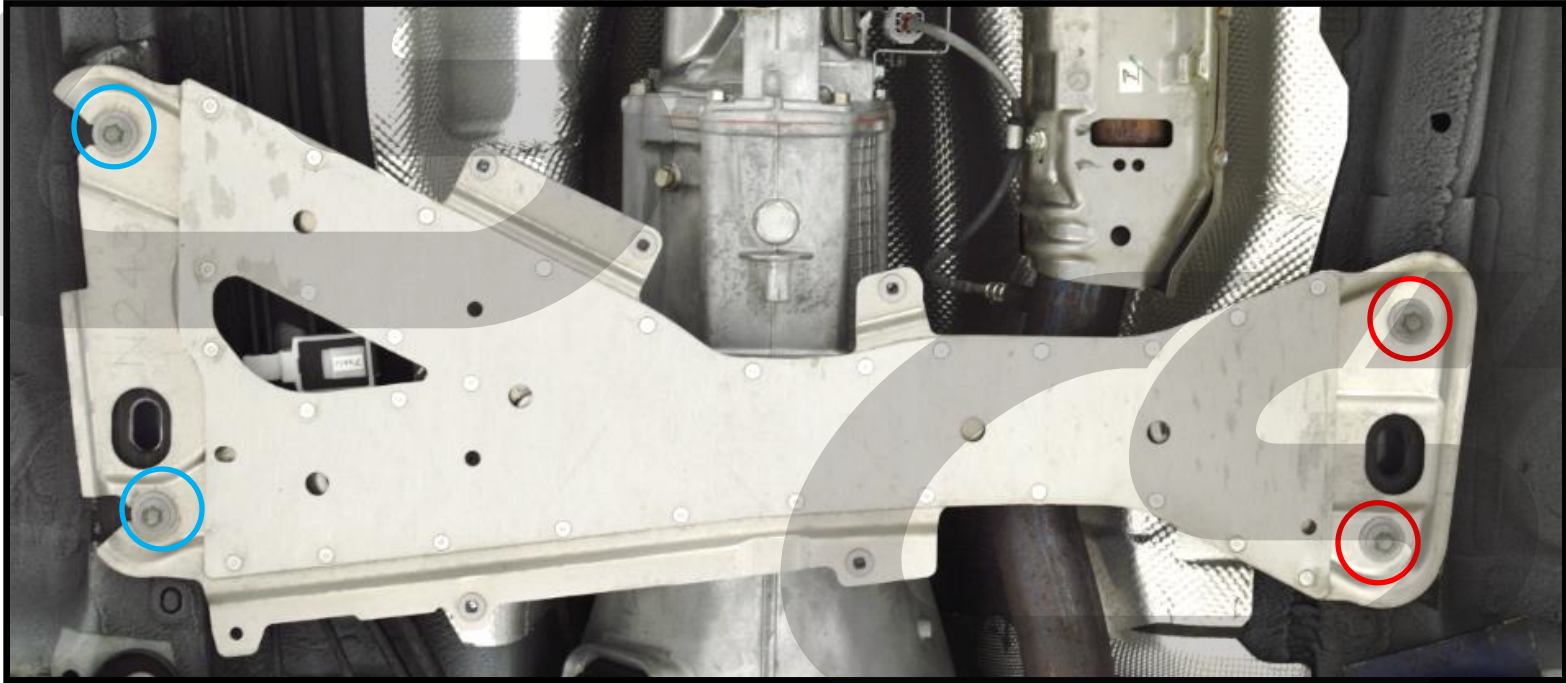

Figure 2a
- a) **Remove the undercarriage braces.** Loosen the three 12mm bolts circled in blue in Figures 2a & 2b. Remove the five 12mm bolts circled in red in Figures 2a & 2b. **Remove the braces from the vehicle.**